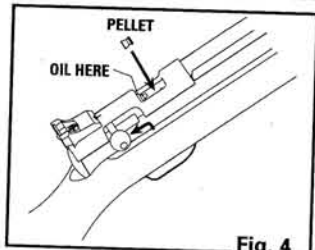

Fig. 4
- Open the bolt by pushing the bolt handle up and pulling it all the way back until you hear two clicks. (Fig. 4)
- With the bolt in the rearward position, place one pellet, nose first, into the loading port (breech) (Fig. 4). This is a single shot pellet air rifle. Load no more than one pellet at a time.
- Open the bolt. (See Step 4A - Fig. 4)